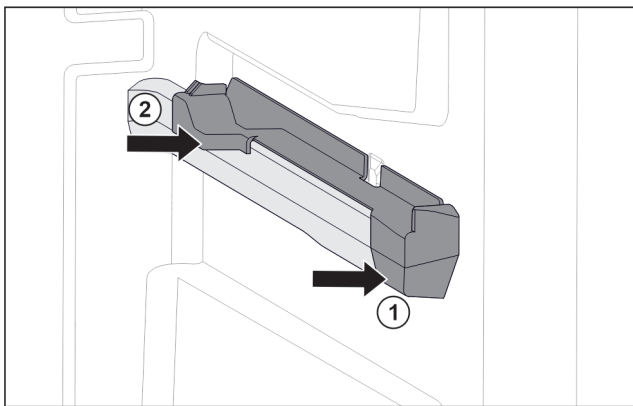

Fig. 48 Attachment on the right moulded rib
- ▶ Position attachment on moulded rib at the front. Fig. 48 (1)
- ▶ Press on attachment at the back. Fig. 48 (2)